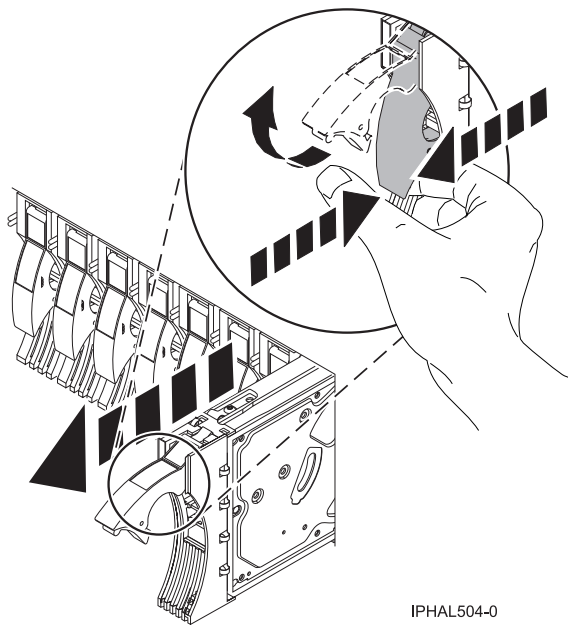

Figure 59. Removing a disk drive from a model or 7311-D20
9. Squeeze or lift the handle of the disk drive out toward you before you remove the disk drive, as shown in Figure 59. If the handle is not all the way out, the disk drive cannot slide out of the system or expansion unit.